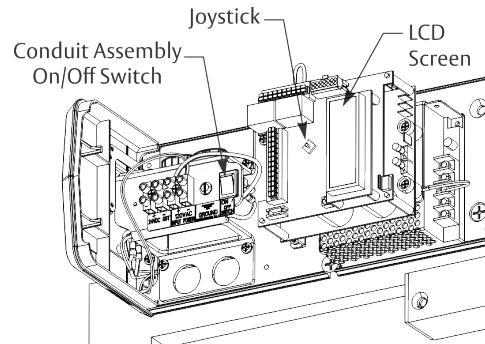

Figure 22 Union Assembly and Spacer not shown
2. Turn On/Off switch to “ON” position on conduit assembly. (Figure 22)
- To scroll through menu items, push up or down on joystick. (Figure 22)